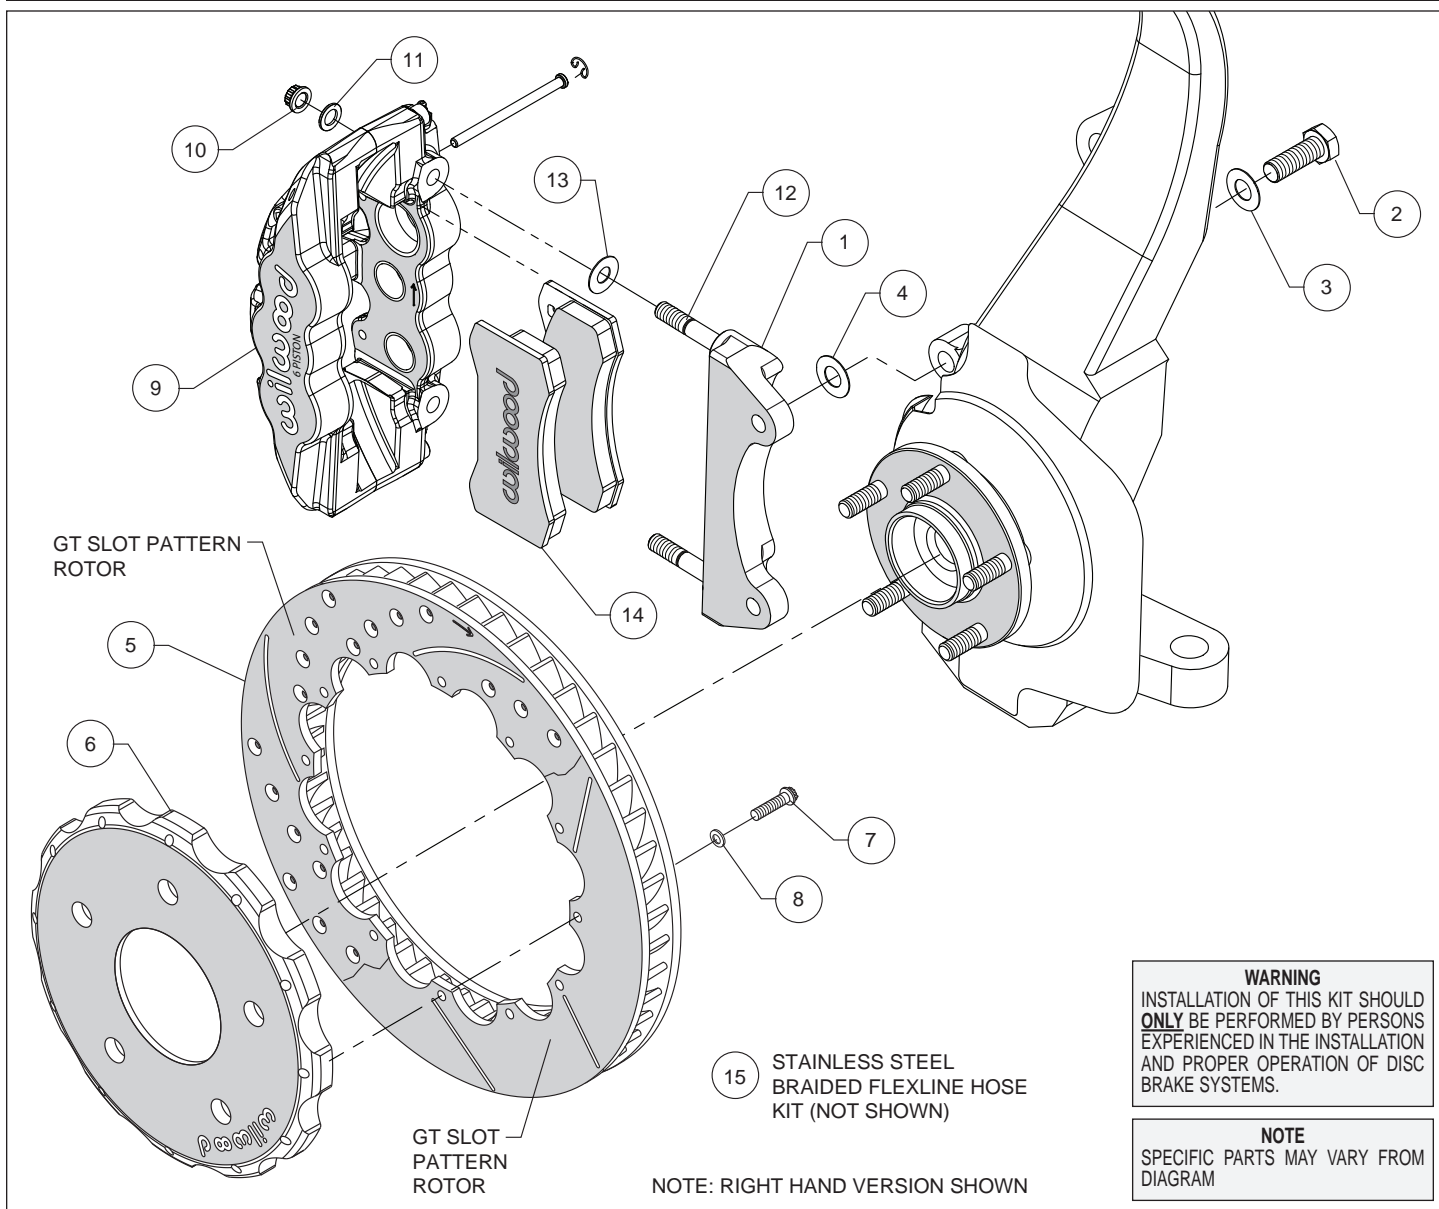

Figure 1. Typical Installation Configuration
**Assembly Instructions** (numbers in parenthesis refer to the parts list and Figure 1 on the preceding pages):
- The caliper mount bracket (1) should initially be installed with clean, dry threads on the mounting bolts. Orient the bracket as shown in Figure 1 and Photo 1, and install using bolts (2) and washers (3). Initially place one .029 thick shim (4) on each bolt between the bracket and upright, Figure 1. Temporarily tighten the mounting bolts. **NOTE:** The bracket must fit squarely against the mounting points on the upright. Inspect for interference from casting irregularities, machining ridges, burrs, etc. Later, after the caliper alignment has been checked, the mount bolts will be secured using red *Loctite*® 271.
- Orient the rotor (5) and the hat (6) as shown in Figure 1 and Photo 2. Attach rotor to hat using bolts (7) and washers (8). Using an alternating sequence, apply red *Loctite*® 271 to the threads, and torque to 155 **in-lbs**. For an added measure of security, the bolts may be safety wired using standard 0.032 inch diameter stainless steel safety wire as shown in Figure 4. Please refer to Wilwood's data sheet DS-386 (available at [www.wilwood.com/Pdf/DataSheets/ds386.pdf](http://www.wilwood.com/Pdf/DataSheets/ds386.pdf)) for complete safety wire installation instructions.
- NOTE:** This kit contains distinct right and left hand calipers that must be mounted in a specific direction, as described below. Lubricate the caliper mounting studs (12) with lightweight oil. Initially place one .030" thick shim (13) on each stud between the caliper and the bracket, as shown in Figure 1 and Photo 3. Mount the caliper (9) onto the bracket (1) using lock nuts (10) and washers (11), Figure 1. Ensure that the caliper is mounted so the largest pistons are at the rotor exit end of the caliper, in relation to the direction of rotor rotation. Temporarily tighten the lock nuts and view the rotor through the top opening of the caliper. The rotor should be centered in the caliper, Photo 4. If not, adjust by adding or subtracting shims (4) between the bracket and the upright. Always use the same amount of shims on each of the two mounting bolts. Once the caliper alignment is correct, remove the bracket mounting bolts (2) one at a time, apply red *Loctite*® 271 to the threads, and torque to 77 ft-lbs.
- Remove the two pad retaining pins from the caliper (9) by carefully popping out the pin retaining clips and sliding out the pins. Insert the brake pads (14) into the caliper from the bottom, Figure 1 and Photo 5. With the friction material facing the rotor, secure the brake pads in place with the pad retaining pins and clips, Photo 6. Reinstall the caliper onto the caliper mounting bracket and temporarily tighten the lock nuts (10). Check that the top of the brake pad is flush with the outside diameter of the rotor, Photo 7. If not, adjust by adding or subtracting shims (13) between the caliper and the bracket. After the caliper pad height is set, torque the caliper lock nuts (10) to 47 ft-lb.